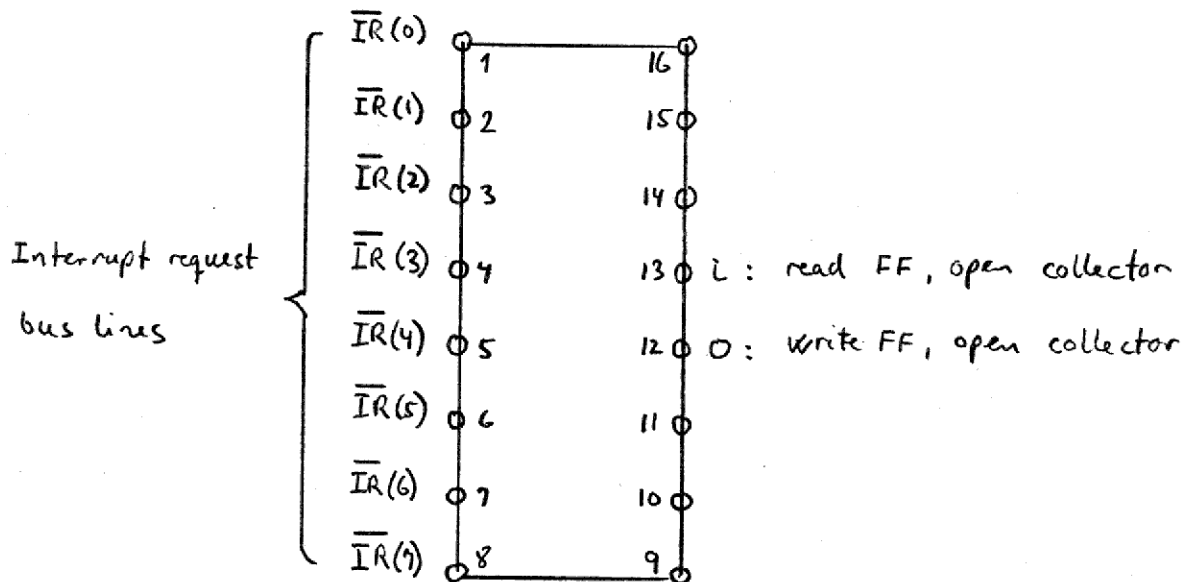

Fig. 3
3.1 Interrupt strapping. By means of a dual-in-line socket near the bus connector of the module, the read and write interrupt flip-flops of the module can be connected to any of the 8 interrupt request lines in the bus. The connections are made with a component board plugged into the socket. Fig. 3 shows the connections to the socket: